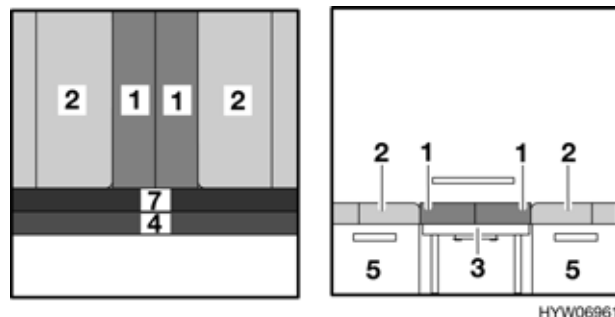

Fig. 80 After conversion
- Place both back cushions (Fig. 80,1) in the middle.
- Lay the additional cushions (Fig. 80,4 and 7) on the bedding box extension.